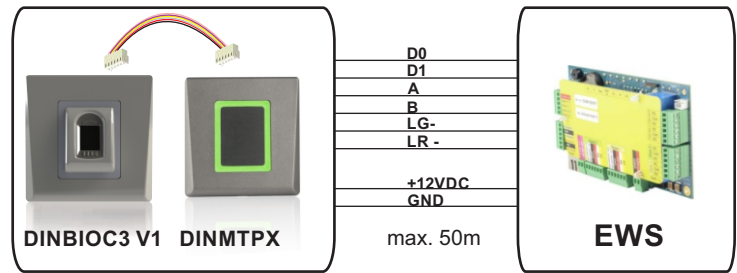

fig. 2
2. Connect the DINBIOC3 V1 to the controller. The proximity reader is not connected to the controller. (fig. 2)